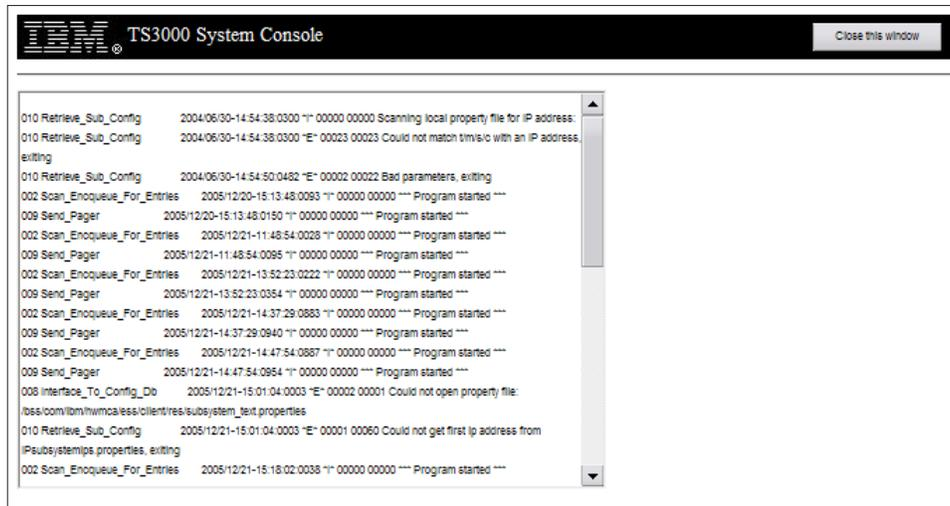

Figure 223. Message File Screen
2. Click **Display Message File** to view the message file. You see Figure 223 on page 169.